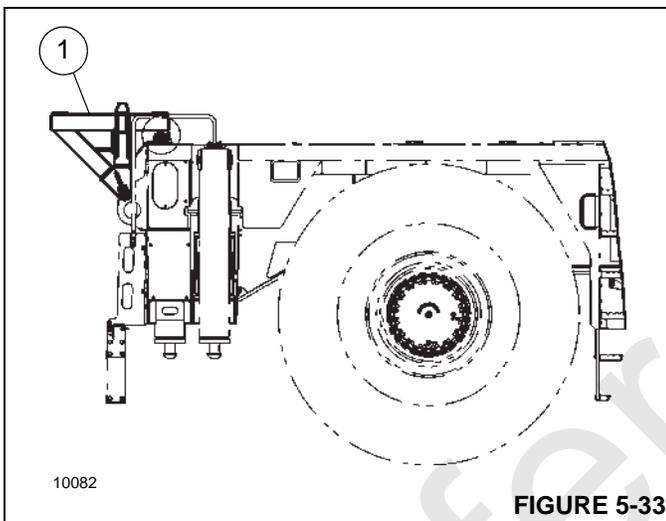

FIGURE 5-33
3. Make sure counterweight support (1, Figure 5-33) is securely attached at front of carrier.